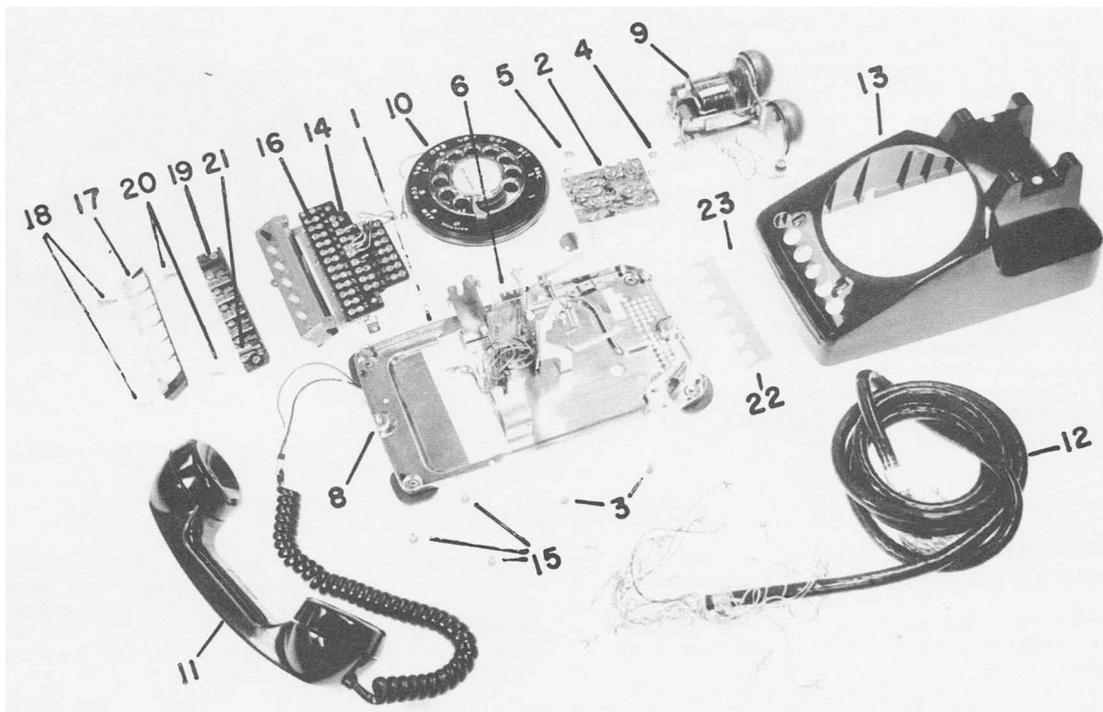

Fig. 3-1 COMPONENT PARTS - EXPLODED VIEW
3.1 The exploded view of Fig. 3-1 shows all the component parts and sub-assemblies of the KEY type of telephone instrument. Procedures for disassembly and assembly are given below. Some slight changes to these procedures may be necessary for certain of the different types of key telephones.